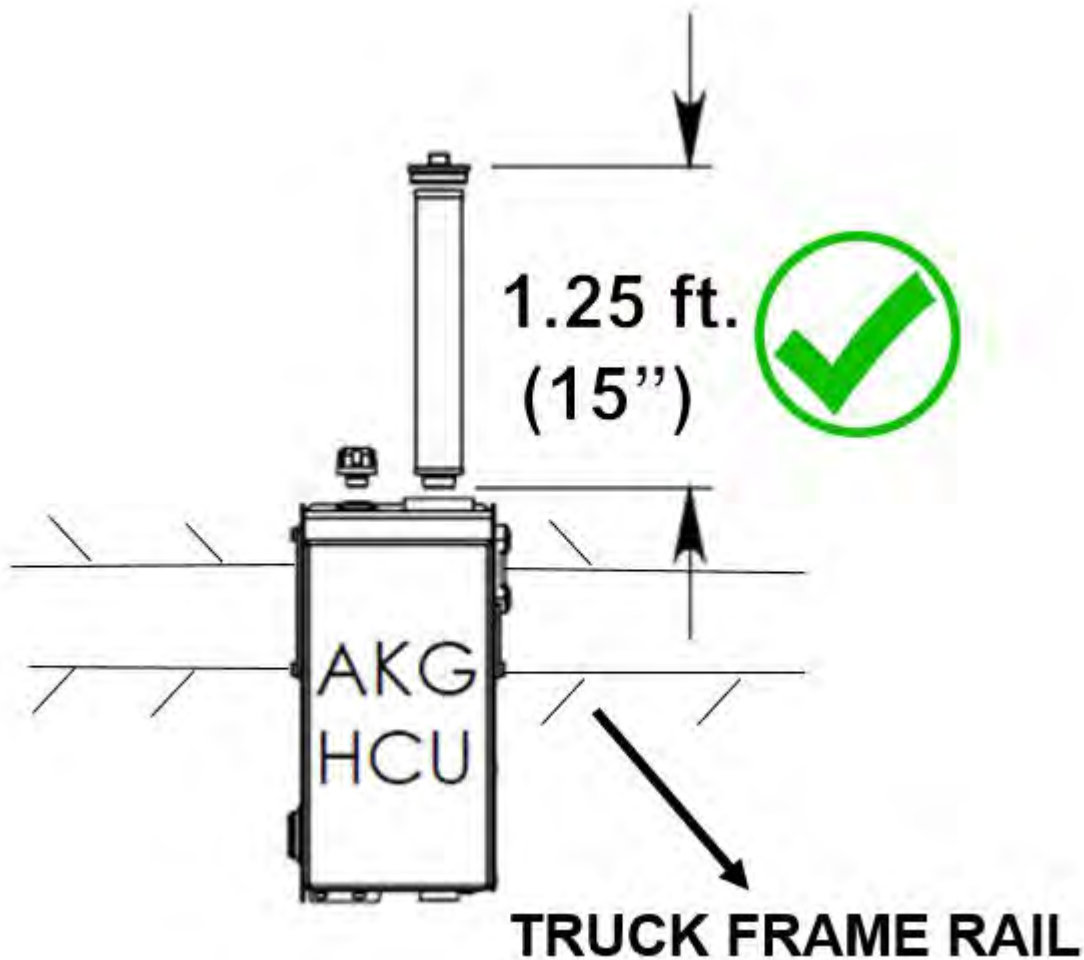

Figure 2C Mounting Clearance for Filter Replacement
3. A clearance of 15" or 1.25 ft is required above the HCU to replace the filter cartridge. Please refer to figure 2C.